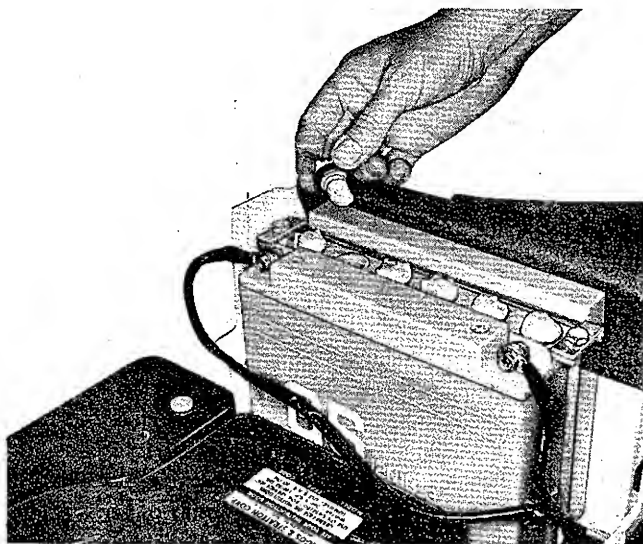

FIGURE 25
6. Check the Battery Water Level to insure it is maintained at the battery fill line approximately one-fourth inch above the plates. If water is needed, add distilled water just before charging to mix the solution. DO NOT OVER FILL THE BATTERY. (See Figure 25).